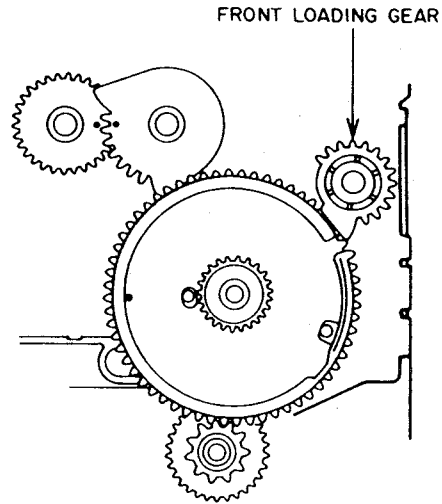
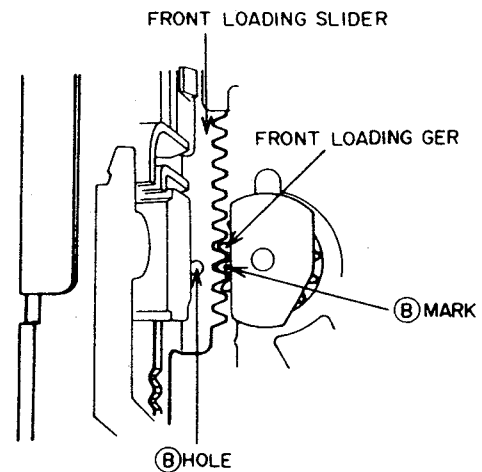

Fig. 3-12
Fig. 3-13
- 3) Attach the FRONT LOADING GEAR as shown in Fig. 3-12. At this time, align the Ⓑ mark on the FRONT LOADING GEAR with the Ⓑ hole of the FRONT LOADING SLIDER as shown in Fig. 3-13.